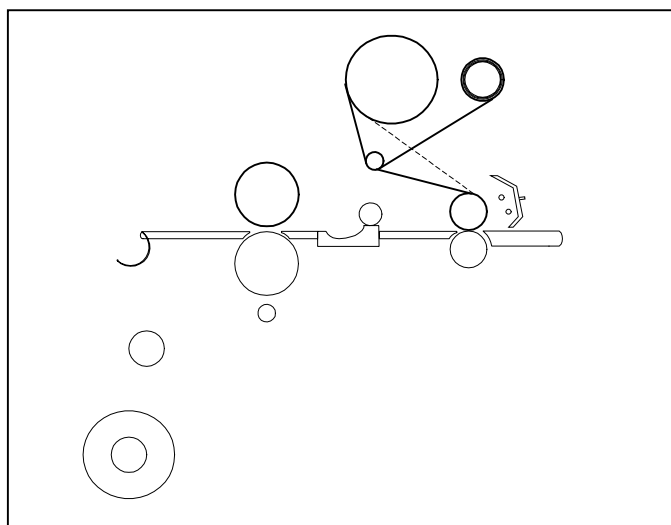

Fig. 36
**TIPS FOR USING THE REAR ROLLERS (Figure 36)**